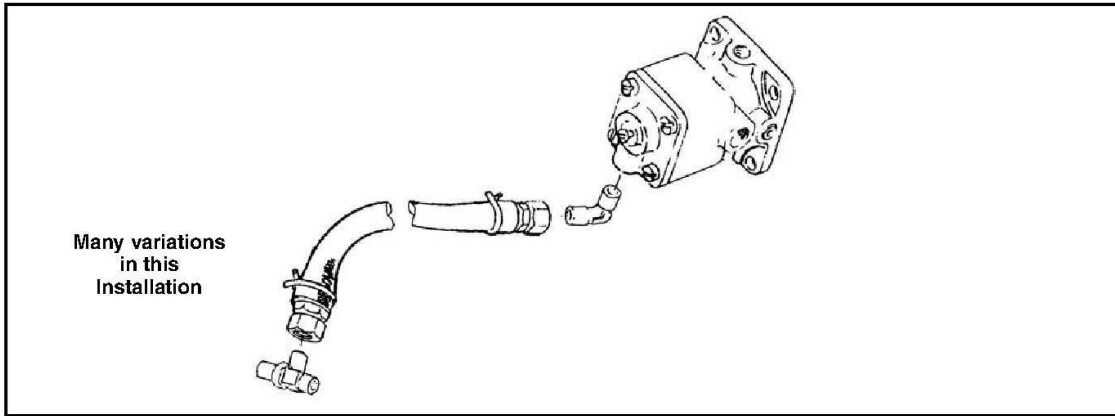
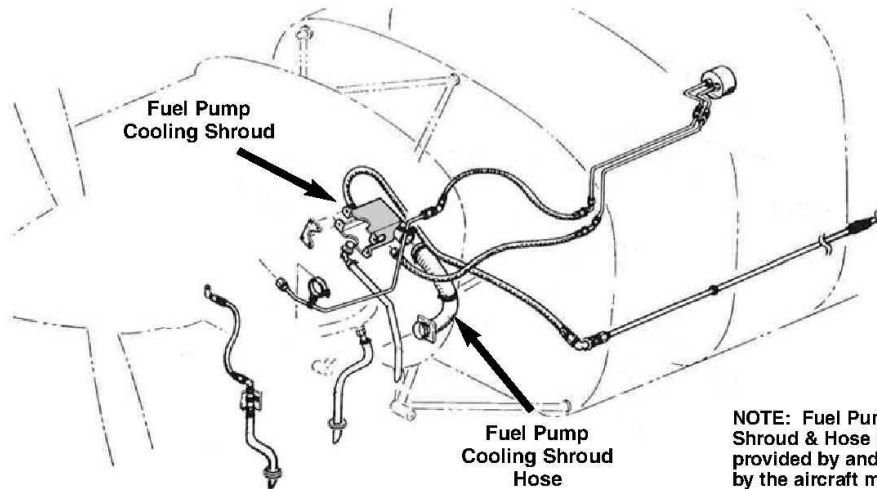

Figure 5 - Typical HET 201F Fuel Pump Plumbed to Upper Deck Reference
Figure 4 - Typical Cooling Shroud Installation
- (b) Inspection of the upper deck reference line requires that the line be disconnected and the inside of the fitting be inspected for fuel or blue dye stains. Refer to Fig. 5 and 6.
- (2) Inspection for fuel or blue dye stains may require use of a "Q" tip cotton swab or similar device to check for the presence of fuel or blue dye.
- (3) If fuel or blue dye stains are not found, refer to Compliance 1.E(1)b and continue to Corrective Action 3.C as convenient.
- (b) If removed, reinstall the fuel pump cooling shroud and air hose (if applicable) in accordance with latest engine/airframe service instructions or maintenance manual and continue to "Return to Service" 3.D.(1). Refer to Fig. 4.
- (4) If fuel or blue dye stains are found, continue to "Corrective Action" 3.C.